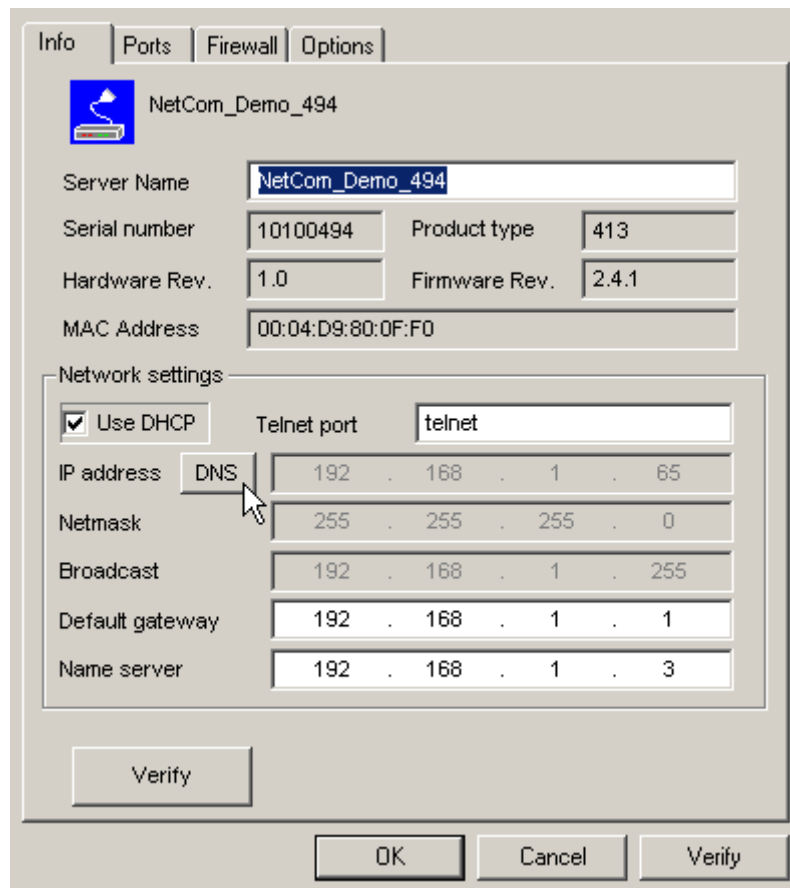

Figure 23: Define NetComs IP Configuration
4.1.2.2 Configure Firewall As you will notice in figure 23 the driver may also operate by traversal of a Network Firewall. This requires a special configuration, which is skipped here. Please read in detail in section 5.6 on page 52. For now proceed with the standard installation.